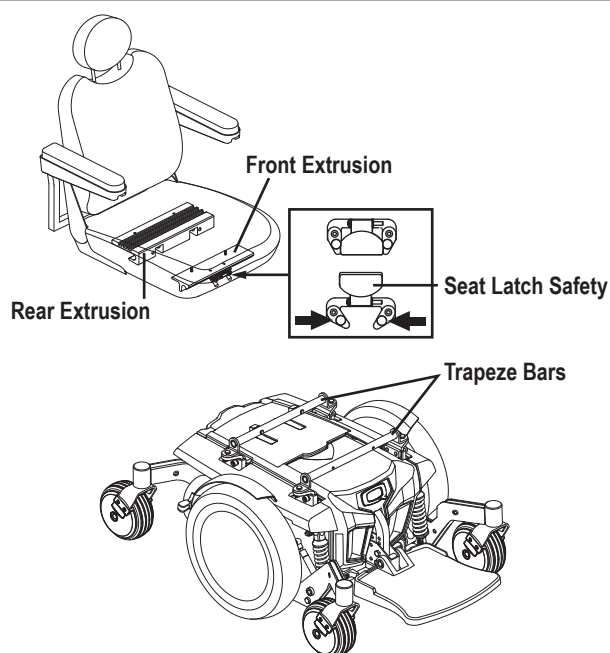

Figure 6. Universal Mounting System and Contour Seat
It may be necessary to install the seat either prior to initial operation or after transporting your power chair. Contour seats are attached to the power base with the Universal Mounting System (UMS). The UMS consists of universal parts that may be attached to the seat, regardless of seat width or seat depth. The two main components are aluminum extrusions mounted to the seat base. These extrusions attach to a pair of trapeze bars that are mounted to the power base. See figure 6.
1. Tilt the seat back and slide the rear extrusion onto the rear trapeze bar. See figure 6.
4. Flip up the seat latch safety. **See figure 6.**